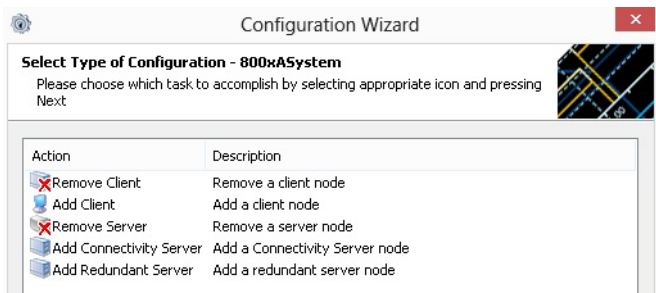

Figure 22. Nodes Administration Dialog Box
- 2. Select **Remove Client**, see Figure 22, and click **Next**.